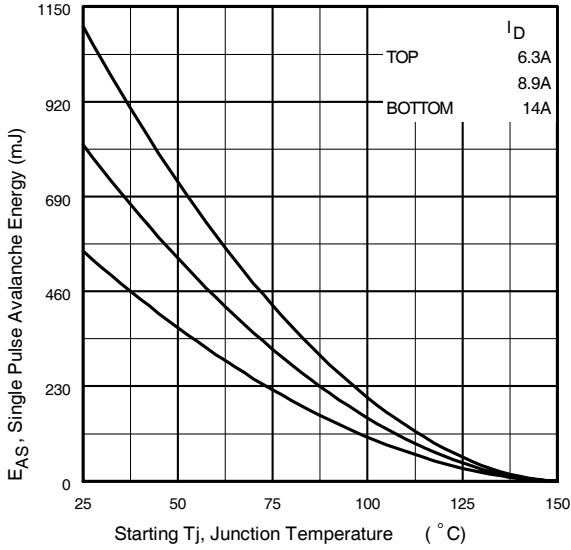

Fig 12a. Maximum Avalanche Energy vs. Drain Current
- ② Starting $T_J = 25^\circ\text{C}$, $L = 5.7\text{mH}$, $R_G = 25\Omega$, $I_{AS} = 14A$, $dv/dt = 7.6V/ns$. (See Figure 12a)
- ③ $I_{SD} \leq 14A$, $di/dt \leq 250A/\mu s$, $V_{DD} \leq V_{(BR)DSS}$, $T_J \leq 150^\circ\text{C}$.
- ④ Pulse width $\leq 300\mu s$; duty cycle $\leq 2\%$.
- ⑤ $C_{oss \text{ eff.}}$ is a fixed capacitance that gives the same charging time as C_{oss} while V_{DS} is rising from 0 to 80% V_{DSS} .